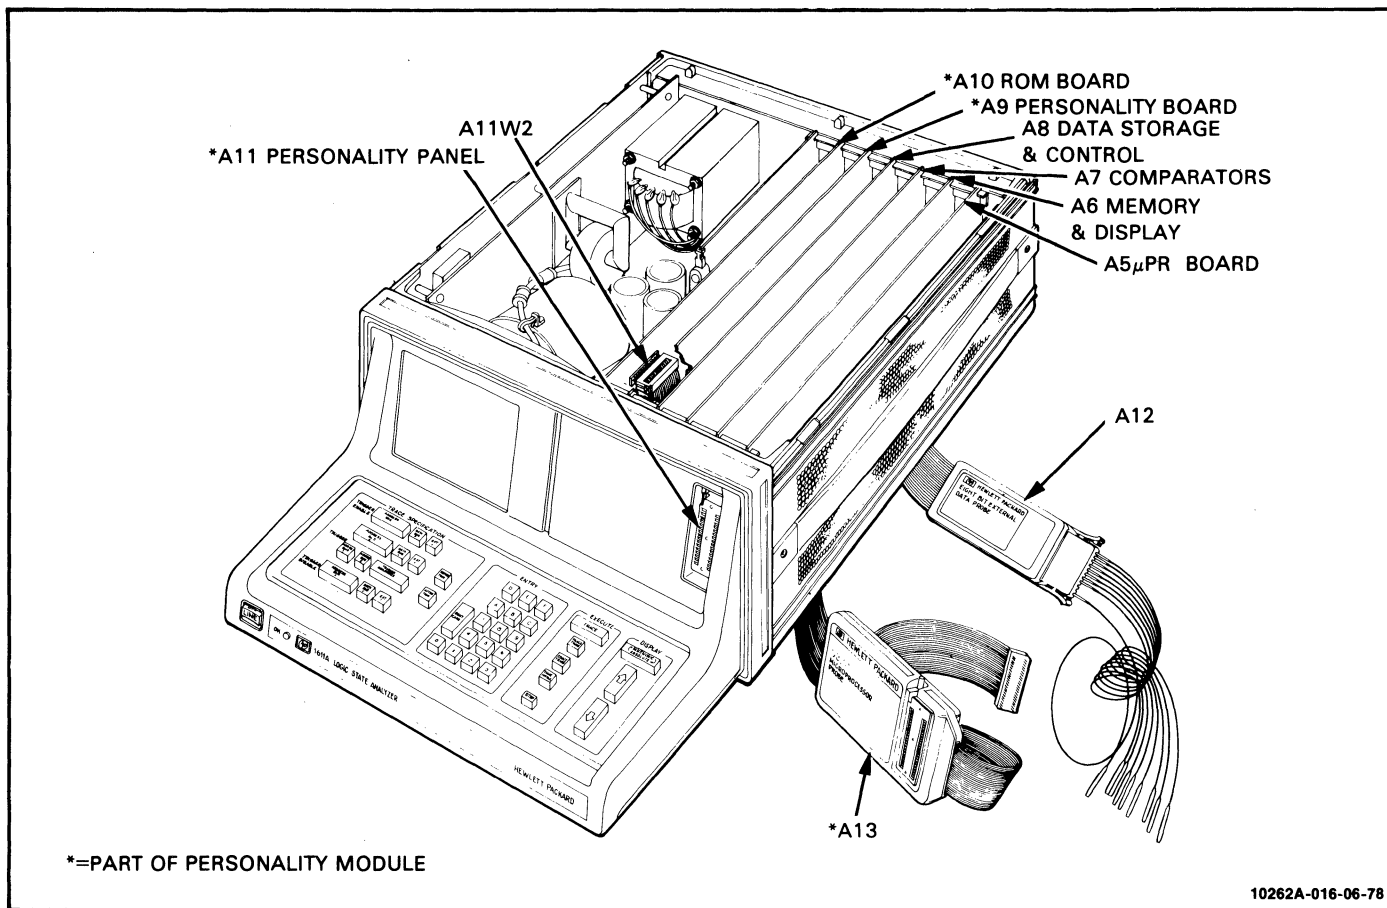

Figure 2-1. Analyzer Assembly Locations
Inspect all parts of the Model 10266A Personality module (see figure 2-1). If your Model 10266A is incomplete or damaged, contact the nearest HP Sales/Service Office. When the Model 10266A is installed according to the following procedure, all signal connections and power requirements will be supplied by the analyzer mainframe. See figures 2-1 and 2-2 and proceed as follows:
4. Disconnect ribbon cable A11W2 from A9 (figure 2-1).
12. Install A10 ROM Board and A9 Personality Board from Option A09 into main board A1 as shown in figure 2-1.
14. Reinstall boards A5, A6, A7, and A8 onto main board A1 as shown in figure 2-1.